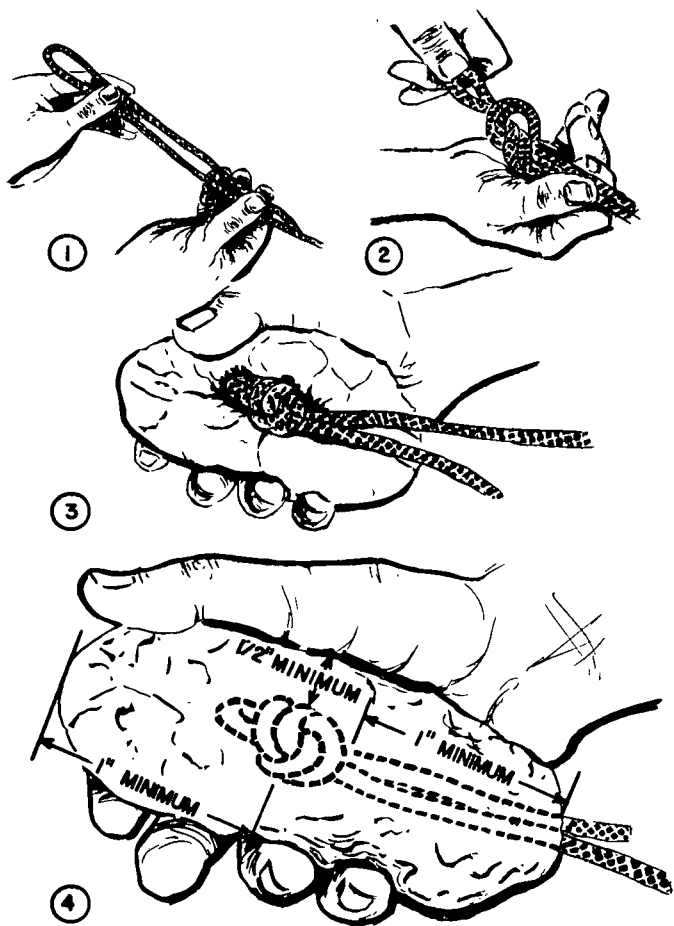

Figure 111. Priming plastic explosive with detonating cord.
- (1) Take a 10-inch bight at the end of the detonating cord and tie with an over-hand knot (1 and 2, fig. 111).
- (2) Mold the explosive around the knot with at least $\frac{1}{2}$ -inch of explosive on all sides
and at least 1-inch on each end (3 and 4, fig. 111).